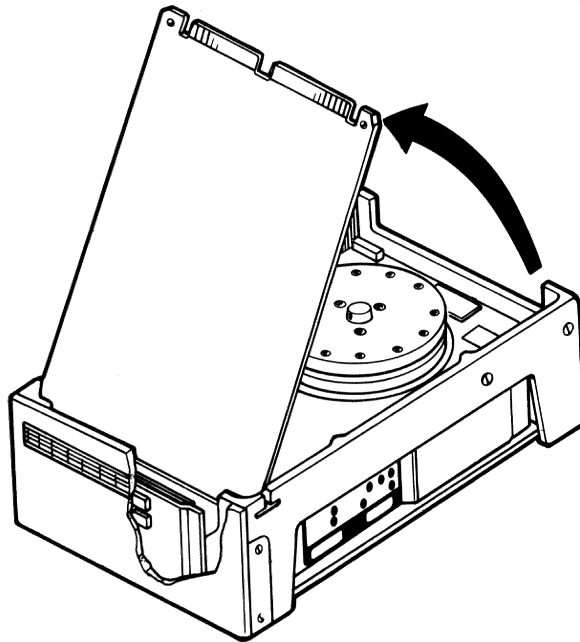

Figure 6-10 RD53 Device Electronics Board Removal
1. Remove the four Phillips screws retaining the skid plate and ground clip. Set the plate aside. (Figure 6-10)